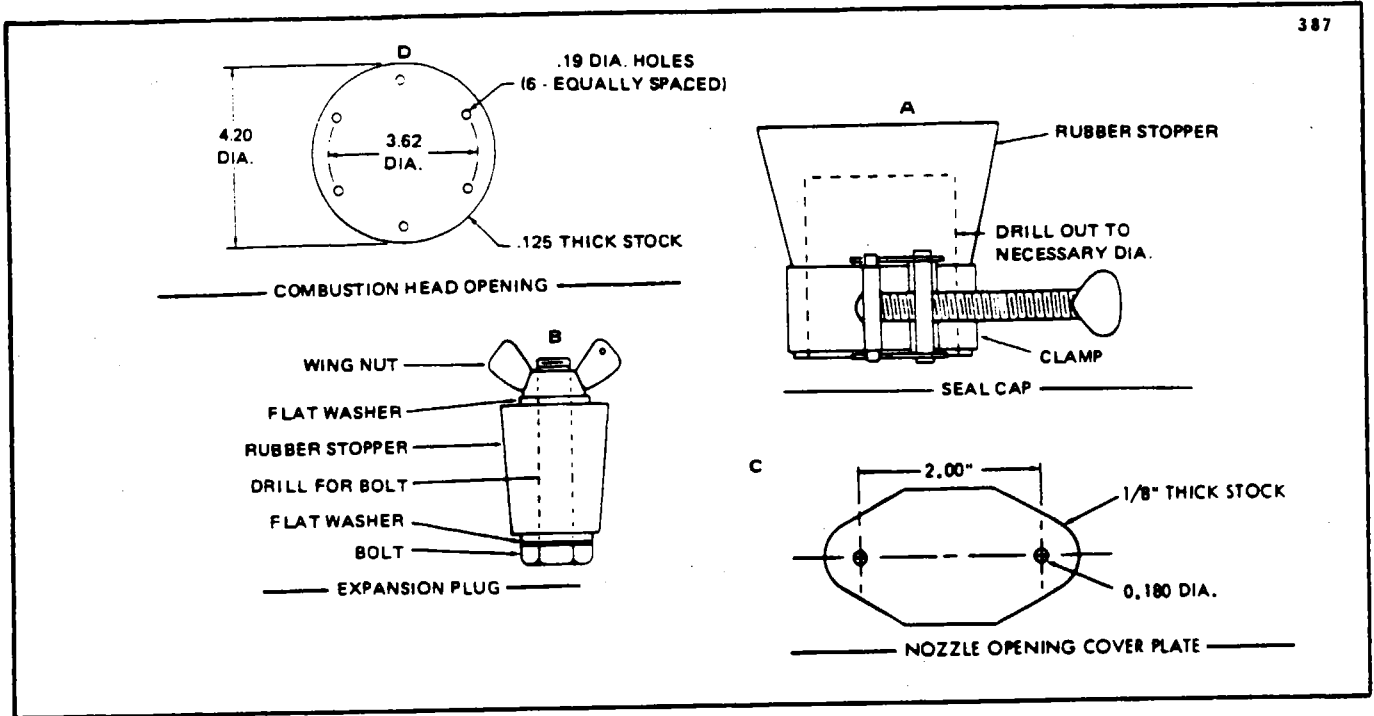

Figure 13-15. Plugs And Caps For Combustion Tube Leak Test
a. Fashion a sealing plate from approximately .125 inch thick flat stock to seal the opening in the combustion tube assembly. (See Figure 13-15.) Use a rubber gasket under the plate and attach the plate with six screws.
b. Make up seals for all remaining openings, except the one used to connect the air pressure source. (See Figure 13-15.) Use rubber stoppers as shown. The combustion air inlet tube can be sealed best with a drilled stopper and clamp. Other openings should be sealed with expansion plugs. The seal used in the exhaust tube should be formed so that it will not deform the air pressure switch tube which protrudes into the exhaust.